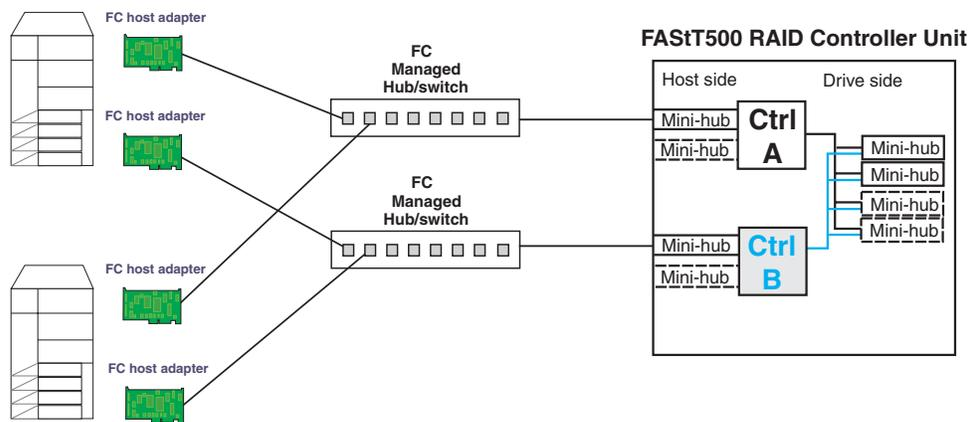

Figure 115. Passive Controller B
1. One controller is passive. In the example shown in Figure 115, controller B is passive.